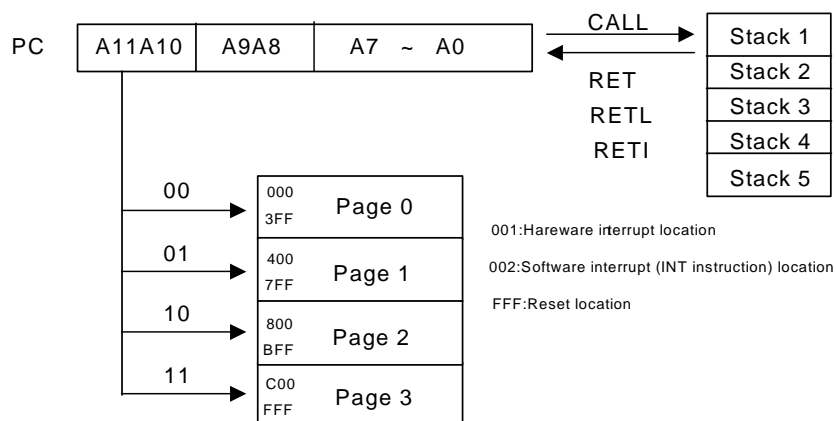

Fig. 3 Program counter organization
- The structure is depicted in Fig. 3.